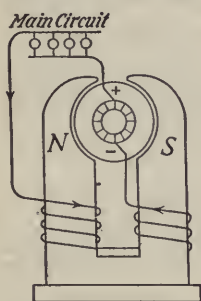

FIG. 285.—A series-wound dynamo.
A. The *series wound dynamo* (see Fig. 285) is arranged so that *all* of the current produced by the armature is sent through coils of coarse wire upon the fields, after flowing through the external circuit.